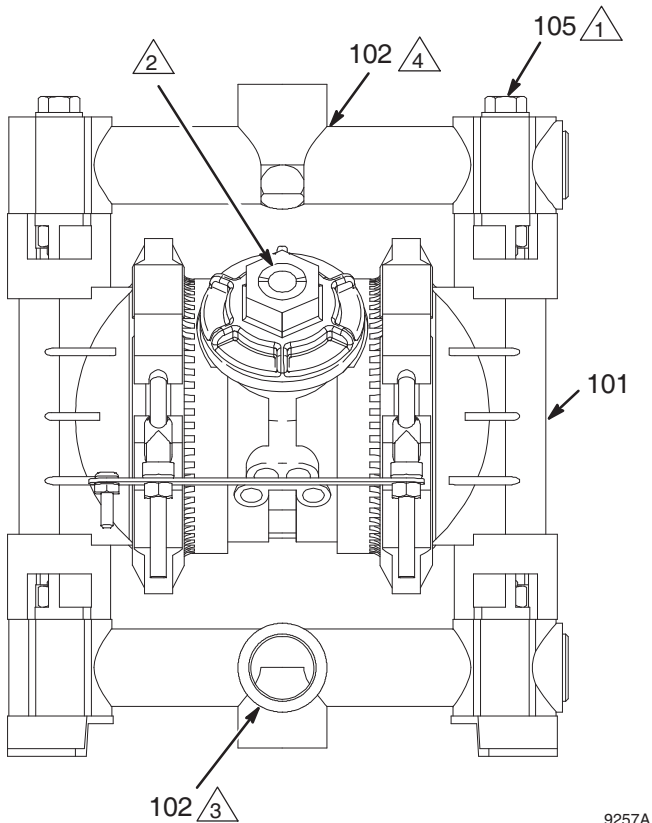

Fig. 4
- The pump fluid inlet is 3/4 npt(f). See Fig. 4. Screw the fluid fitting into the pump inlet snugly. **Do not overtighten.**
- Use electrically conductive fluid hoses (L). Be sure the lines are bonded all the way from the grounded pump to the waste storage tank.
- The pump fluid outlet is 3/4 npt(f). See Fig. 4. Screw the fluid fitting into the pump outlet snugly. **Do not overtighten.**
- Install a fluid drain valve (C) near the fluid outlet. See the **WARNING** above.
You can change the direction of the fluid inlet and outlet manifolds (102), if desired. Model 241906 is shipped with the fluid inlet manifold pointing toward the air inlet and the fluid outlet manifold pointing away from the air inlet. See Fig. 4.
1. Remove the bolts (105) holding the manifold (102) to the covers (101). Save the attaching hardware.
2. Turn the manifold to the desired position, and reinstall the hardware. Torque the bolts (105) to 80 to 90 in-lb (9 to 10 N•m). See **Torque Sequence**, page 22.